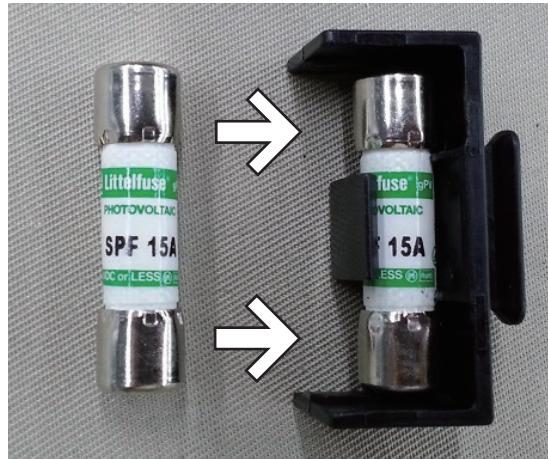

Figure 6-6 : Replace the fuse
4. Replace the fuse if necessary. (**Figure 6-6**)